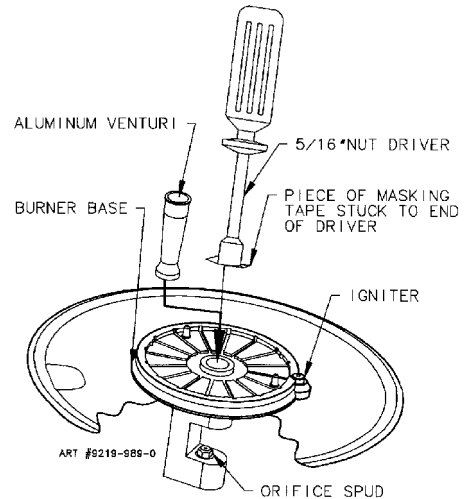

Figure 5: Removal of Orifice Spud
- Step 4: Firmly press the nut driver over the orifice spud (figure 5) and loosen spud by turning counterclockwise. Carefully lift nut driver out of burner throat. Orifice spud should be captured in the recess. Repeat this step for each burner.